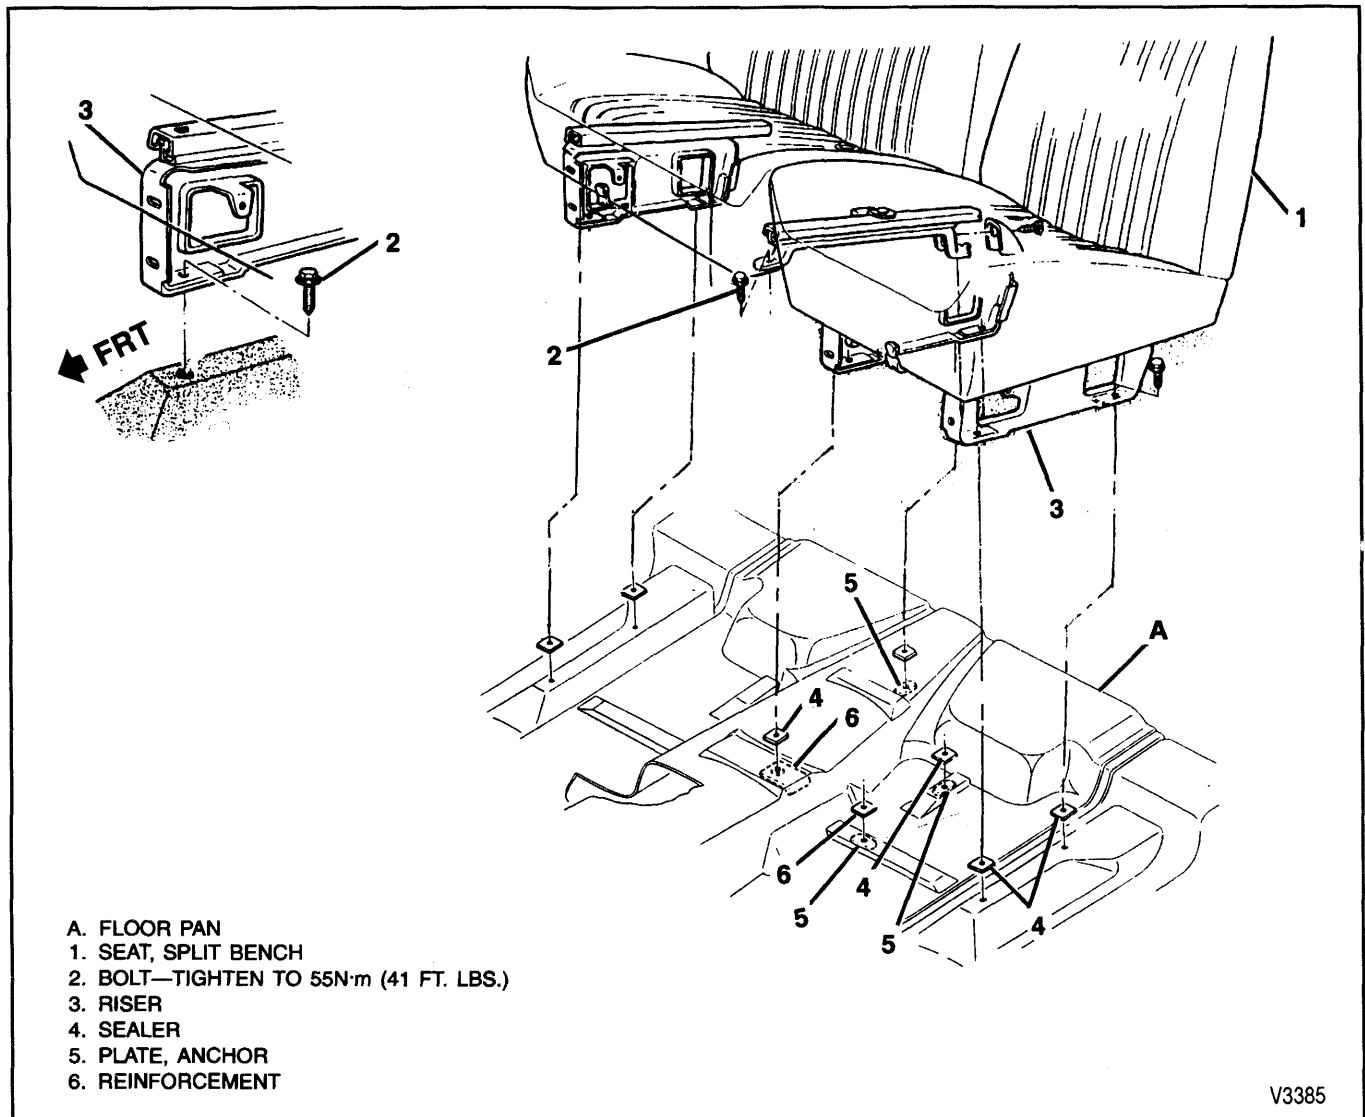

Figure 4—Front Split Bench Seat Mounting
**Remove or Disconnect (Figure 4)**
→→ Install or Connect (Figure 4)